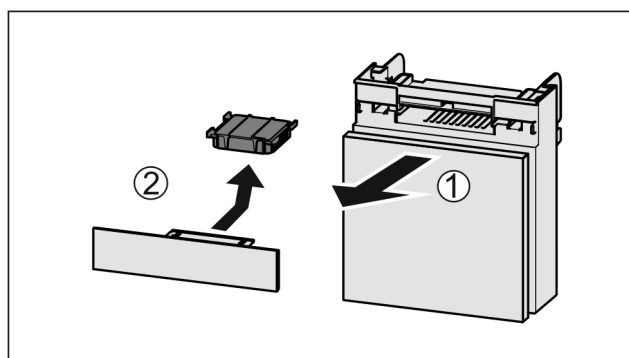

Fig. 34
- ▶ Pull out the compartment Fig. 34 (1).
- ▶ Remove the carbon filter Fig. 34 (2).